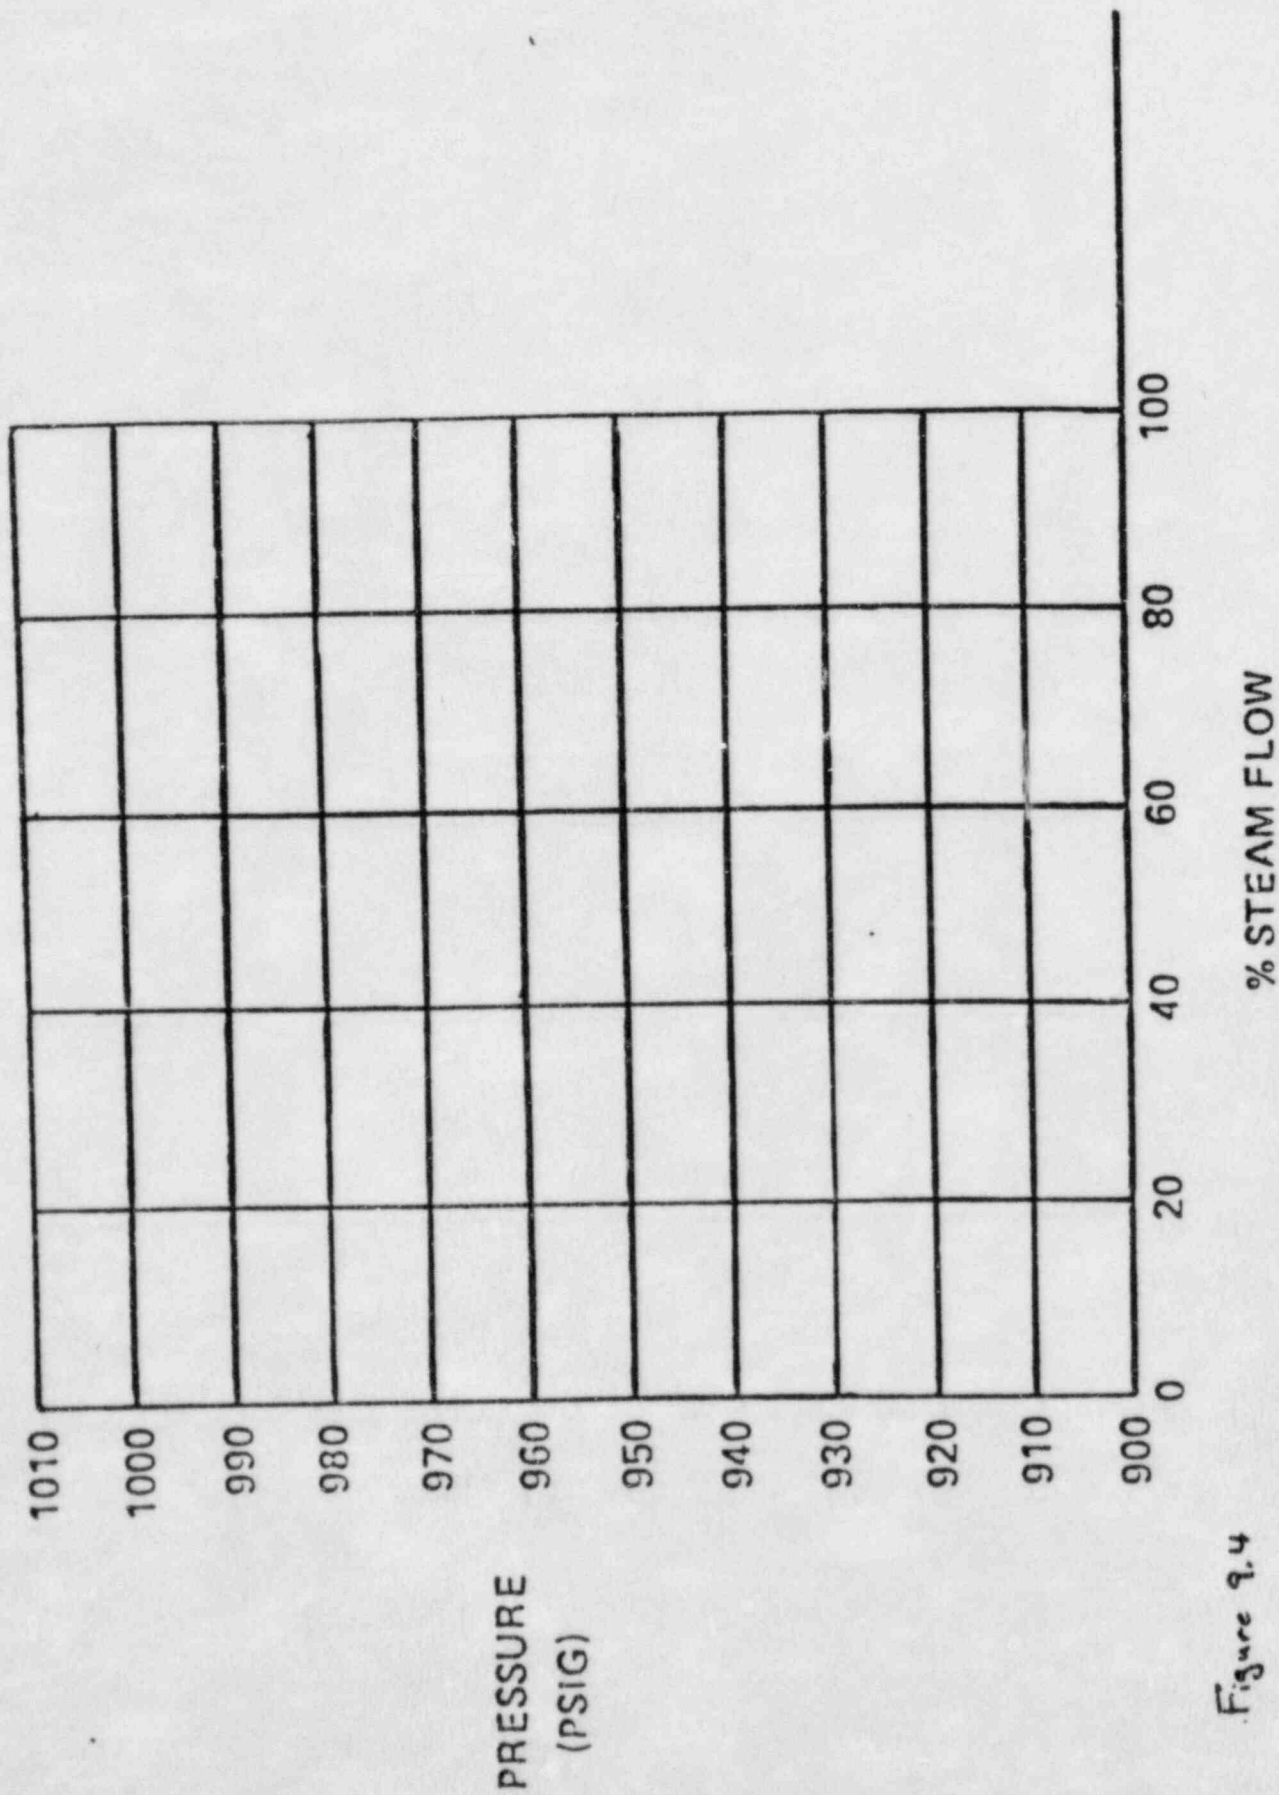

Figure 9.4
- b. Using attached Figure 9.4, draw the variation of Rx Pressure and Turbine Inlet Pressure (Throttle) from 0% to 100% steam flow. Be sure you identify the following: